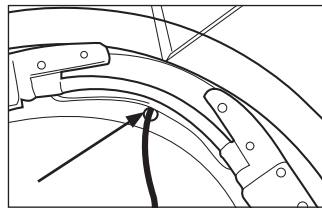

Figure 27
7. Tighten the LED assembly (Figure 27)